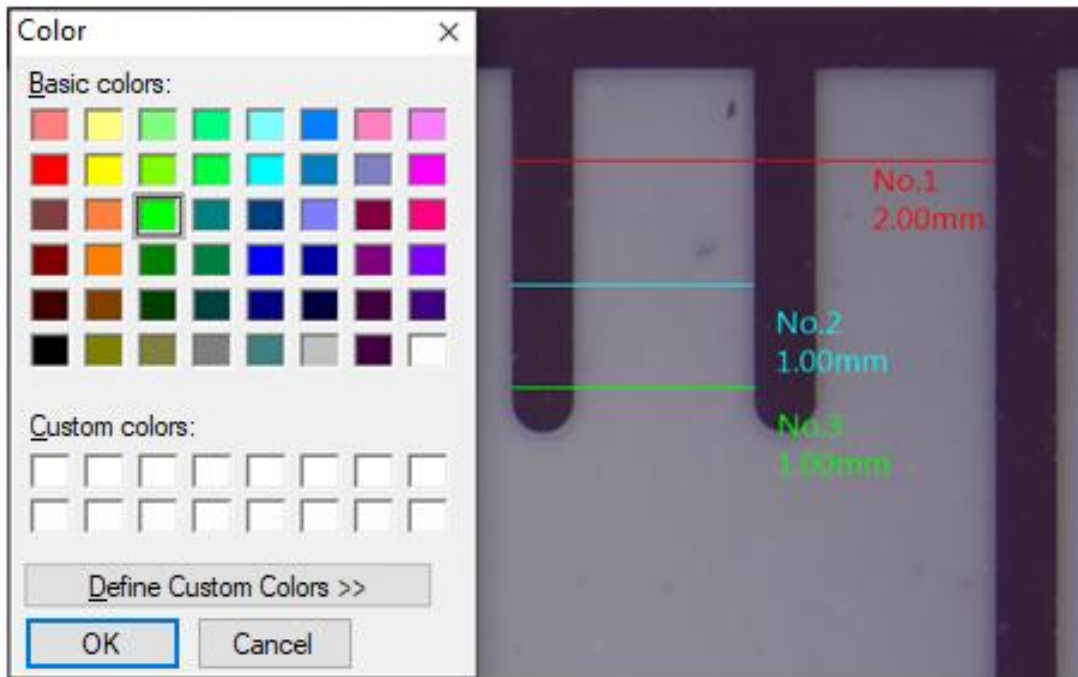

Fig.5-21 Changing measuring line
(18) Undo/Redo : When multi-Line measurement, if the measurement error need return to previous action or to next action, that can apply   tool for Undo/Redo action.
(19) Change Measurement Color : When object is similar color to measuring line that can apply  tool for changing color of tool line as Fig. 5-21 shown.